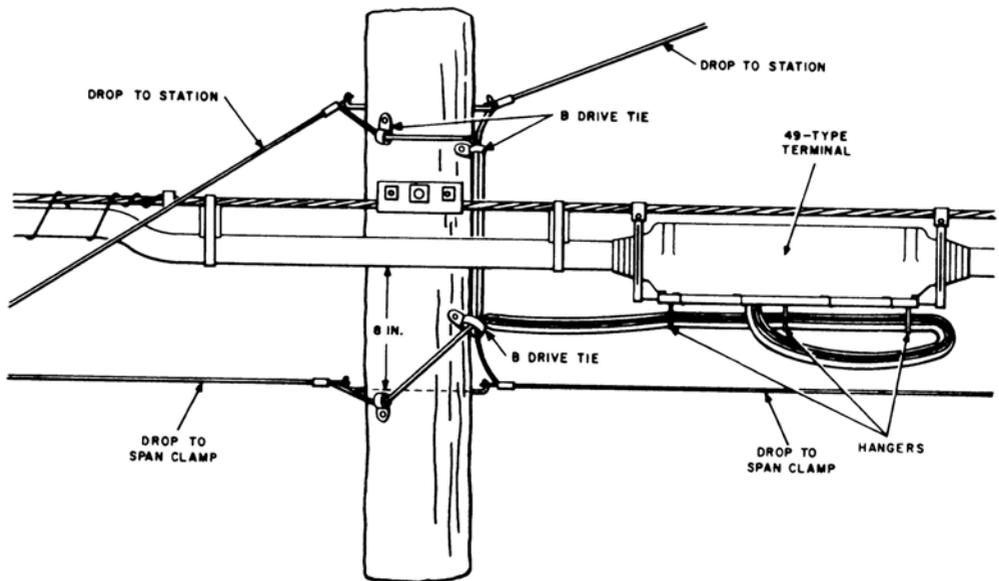

Fig. 2—Running Drop Wire to 49-Type Terminal at Pole
3.01 Run drop wires to the terminal from the adjacent pole (Fig. 2), except where they distribute from a cable extension arm or from a span clamp. A drop wire from a span clamp should be run directly from the span clamp to the terminal when the span clamp is adjacent to the terminal.
3.07 Refer to Fig. 2, 3, and 4 for typical arrangements of drop wires terminated in 49-type terminals on aerial cable. **Limit the number of drop wires in ready access 49-type terminals to eight (8).**